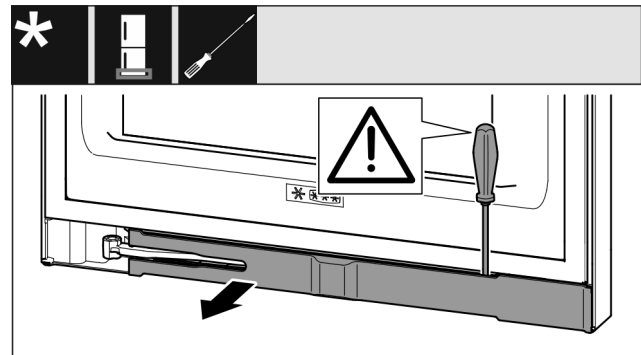

Fig. 11
- ▶ Unlatch the panel with a slotted screwdriver and swivel it to one side Fig. 11 ().